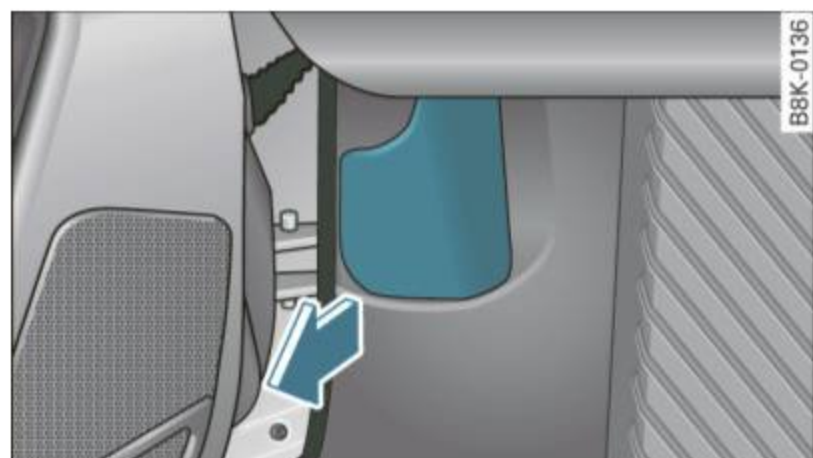

Fig. 199 Driver's side footwell: engine hood release lever
- Pull the release lever on the left under the instrument panel ⇒ fig. 199 in the direction of the arrow.